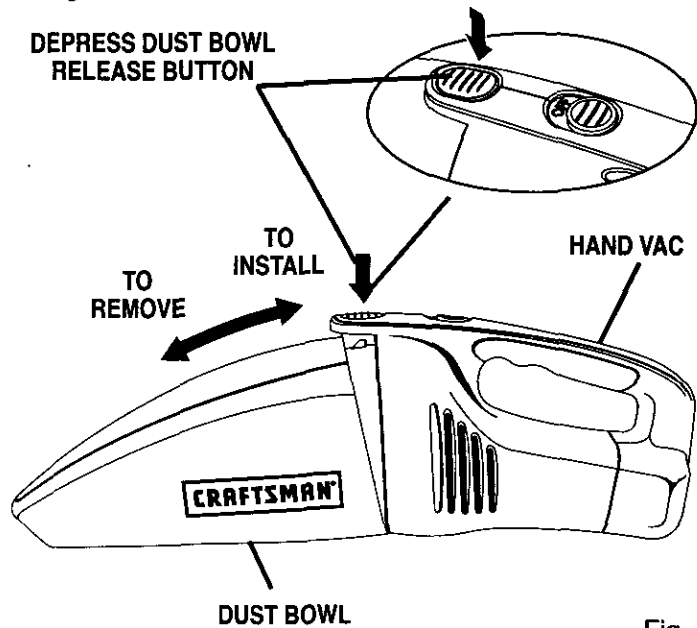

Fig. 4
See Figures 4, 5, and 6.
- Depress dust bowl release button located on top of hand vac then pull bowl down and out as shown in Figure 4.